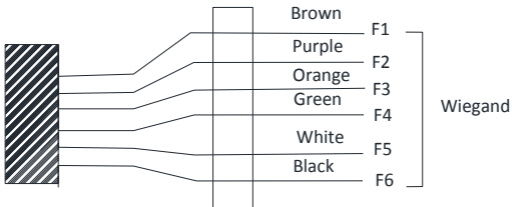

Figure 2.5 Terminals 2
3. Plug the Wiegand Terminal 2 to the Wiegand as shown in Figure 2.5 and Figure 2.6. The Interface 2 represents the Wiegand interface.